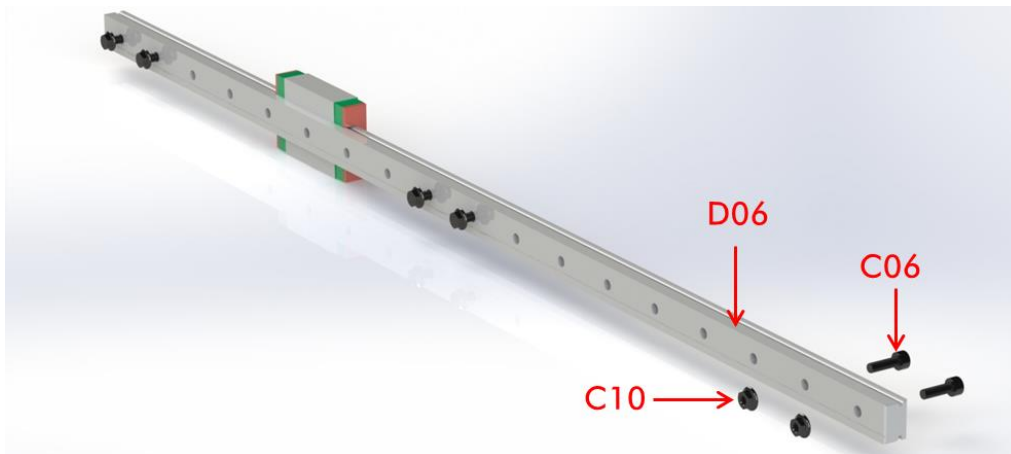

Fig. 12
(1) Linear Version
Step 1. Firstly, hang 6 pairs of C06 and C10 with proper interval onto the linear rail (D06) as demonstrated in Fig. 12. In total there are 3 rails and the assembly is the same.